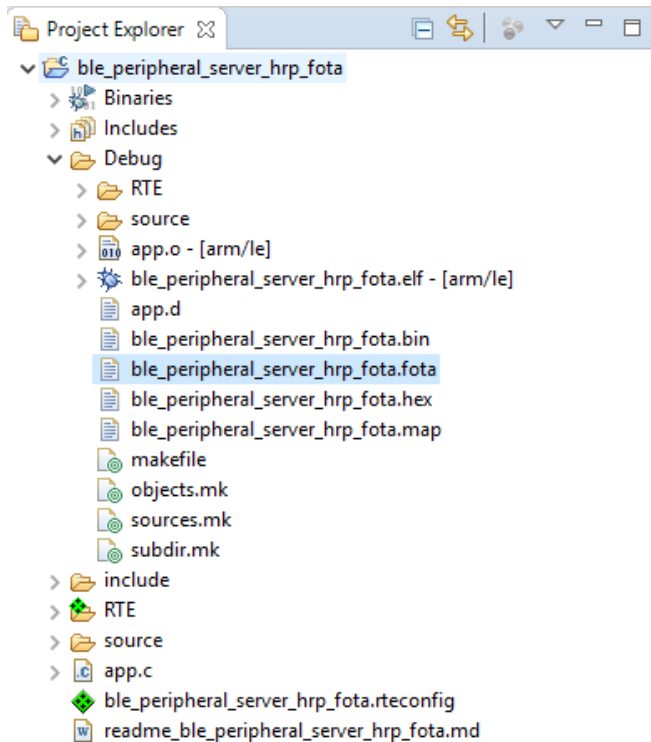

Figure 5. .fota Image in Debug Folder
4. Build the *ble_peripheral_server_hrp_fota* project. After a successful build, the *ble_peripheral_server_hrp_fota.fota* image is generated under the *Debug* folder, as seen in Figure 5: